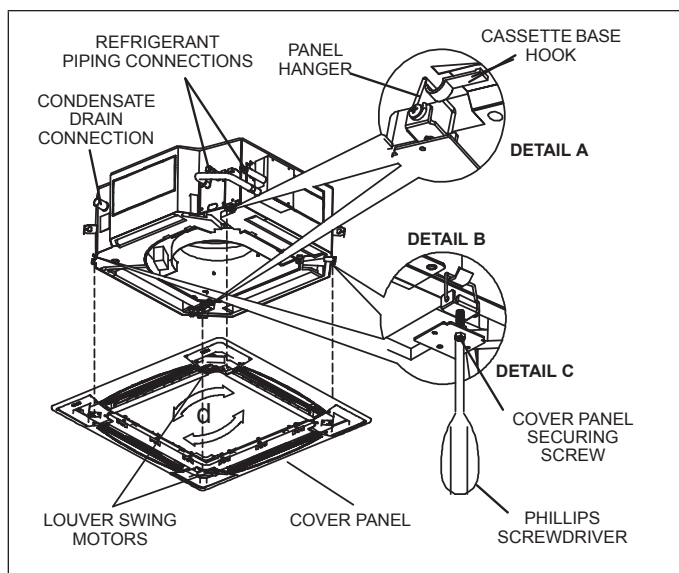

Figure 18. Install Cover Panel
5. Place the cover panel hangers on the two corners with the louver swing motors. Place these two hangers on the corresponding hooks on the corners of the cassette base. See detail A in "Figure 18. Install Cover Panel". Then, place the other hangers from the other two corners over their corresponding hooks on the cassette base as shown in detail B in "Figure 18. Install Cover Panel".
9. Tighten the provided screws in the bracket in the cover panel immediately below each panel hanger. See detail C in "Figure 18. Install Cover Panel". Adjust the cover panel by turning slightly clockwise, if necessary, to make sure that the panel is properly aligned with the cassette base.